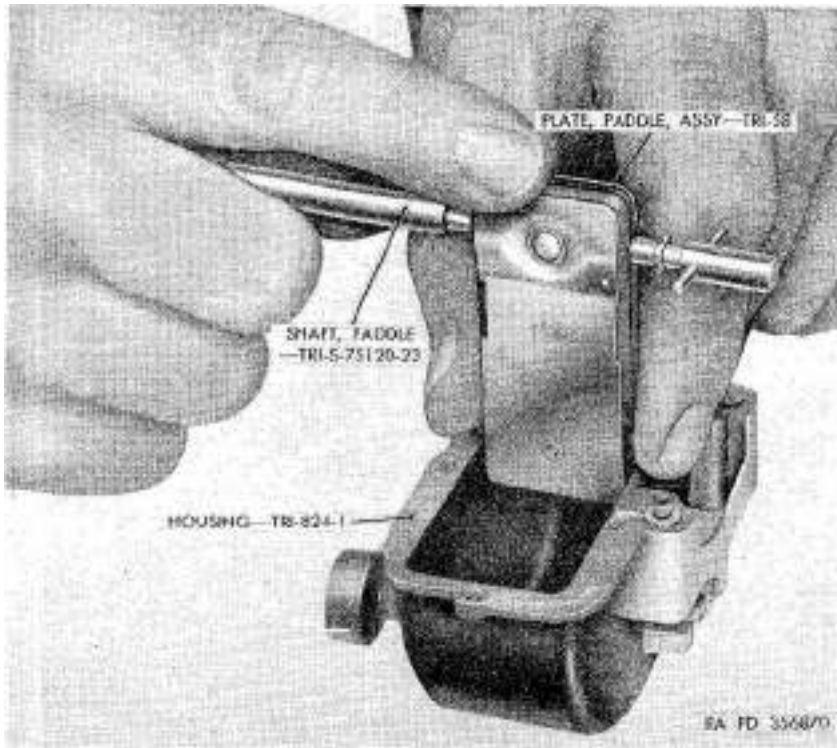

Figure 197. Inserting paddle plate and shaft assembly.
- (2) Insert kicker (L), with escapement spring attached, in opening provided in housing at valve side (flat side of kicker toward housing).
- (3) Spread **Trico-Wiper** lubricant lightly on inside walls of housing. Insert paddle plate assembly (KK) and paddle shaft (FF) by holding fingers at edge of housing and forcing paddle straight down between fingers as shown in figure 197 to prevent damaging of paddle seal. Place hooked end of kicker (L) over paddle shaft (FF) as shaft is being positioned.